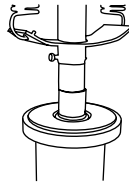

FIG 2
2. Use a press to push the bearing out ensuring the pipe underneath is larger than the bearing Fig 2.